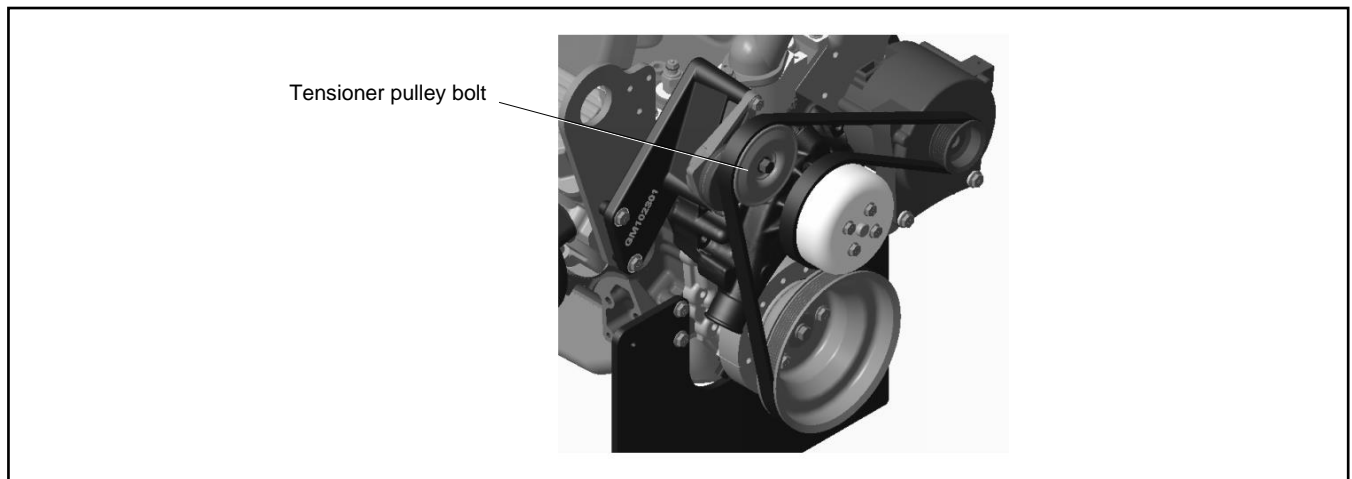

Figure 21 Tensioner Location
1. Use a socket wrench to turn the tensioner pulley clockwise against the spring force. See Figure 21.